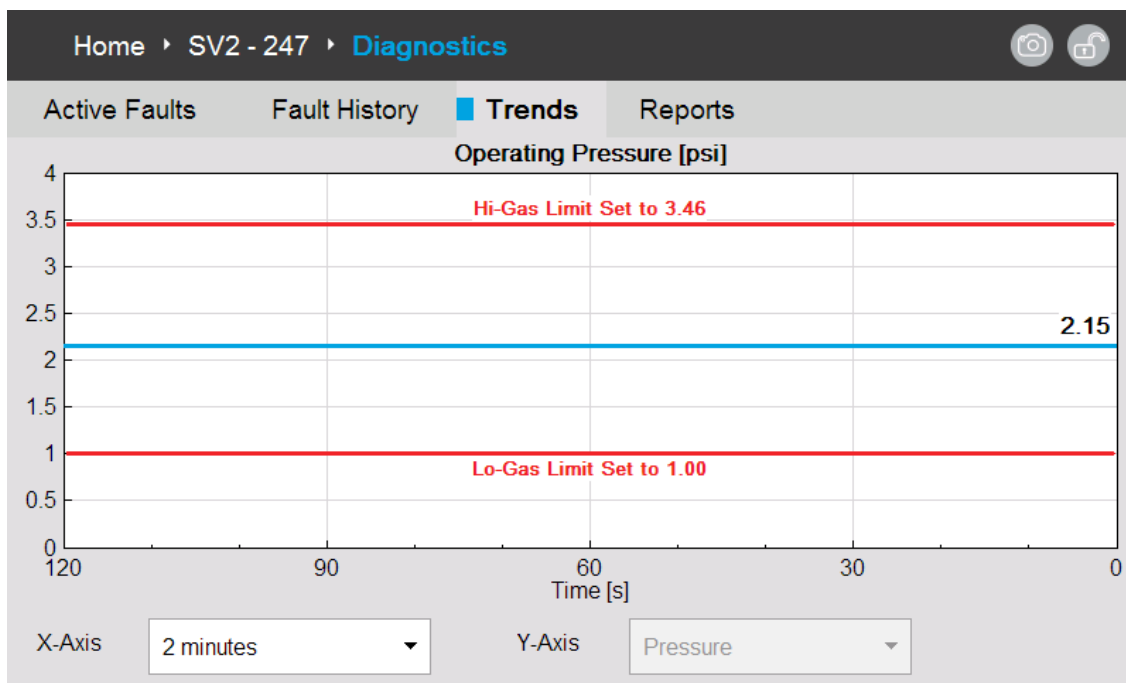

Fig. 49. Diagnostics – Trends.
**Trends** Opens the Trends tab, which shows trending over time for user-selected parameters. Refer to Fig. 49.